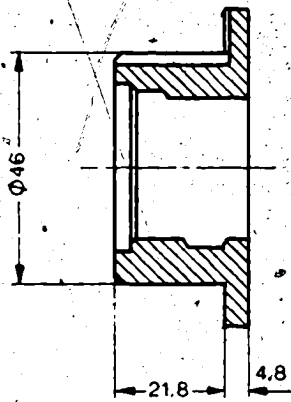
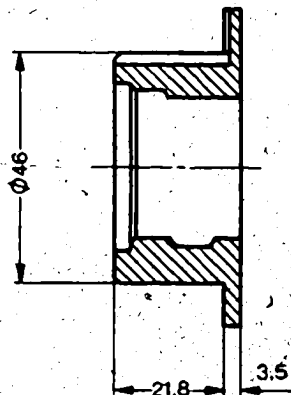
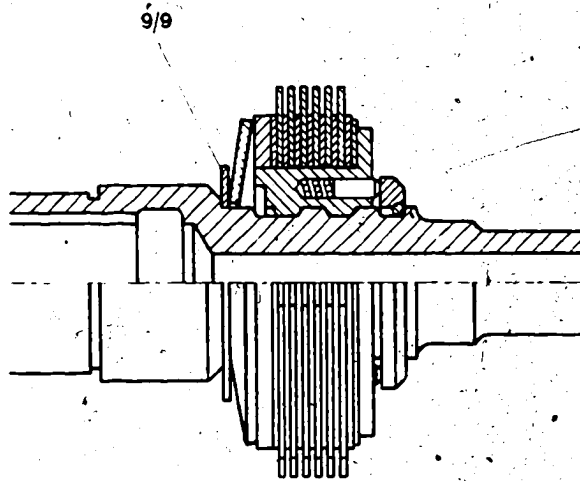
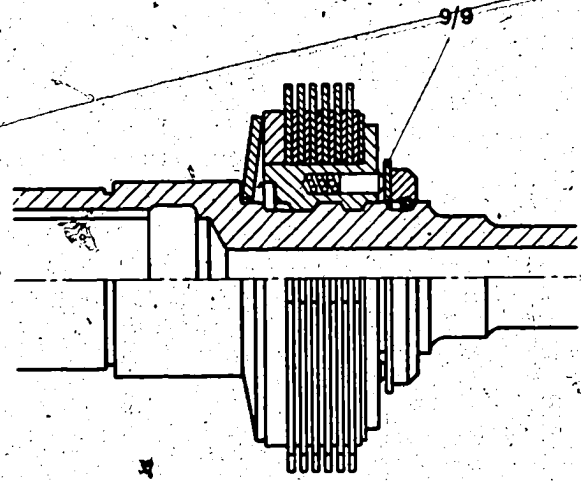

Fig. 2 Coupling half
Fig. 4 Coupling half for parts set 2 007 010 044
Fig. 5 Old type
Fig. 6 New type
Fig. 2 new type
The installation positions of the conical spring washer (pos. 72), the helical compression springs with the straight pins, the shim (pos. 71/1) and the shims (pos. 74) can be seen from the section drawing (fig. 2).
- 1.6. Coupling half (Item 9/7) : The coupling half is now extruded, its diameter being 46 mm (Fig. 2). There is no change in the helical compression springs (Item 9/7/3) and straight pins (Item 9/7/4).
The coupling half (Fig. 4) of the parts set differs from the series-produced model (Fig. 2) in its dimensions. It must be used when repairing the new and old armature shafts. The shim (Item 9/9) continues to be supplied and is to be fitted in accordance with Fig. 5 or 6 when carrying out repair work.
The shim (Item 9/9) must be fitted in accordance with Fig. 6 when carrying out repair work on the new multiplate clutches, and according to Fig. 5 (clutch chamfered) in the case of old-type clutches.